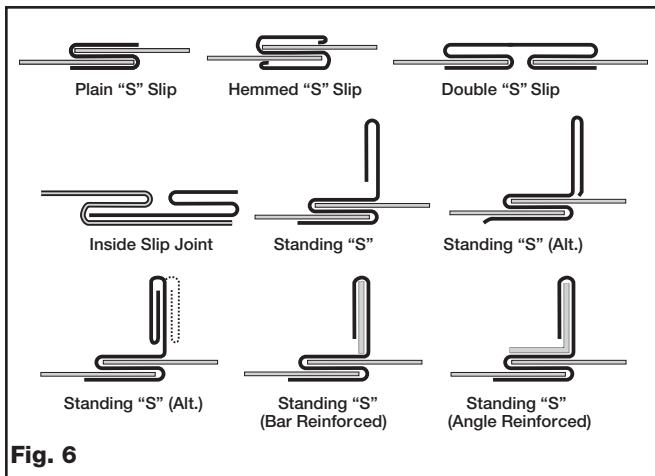

Fig. 6
- The breakaway connections shown (Fig. 6) can be applied with maximum of two #10 (19mm) sheet metal screws on each side and on the bottom located in the center of the slip pocket and penetrating both sides of the slip pocket.